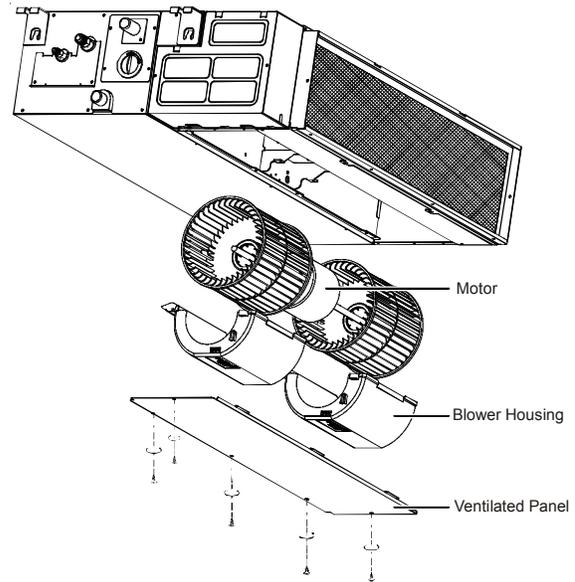

Figure 32
2. Remove half of the motor housing and remove motor, as shown in Figure 32.